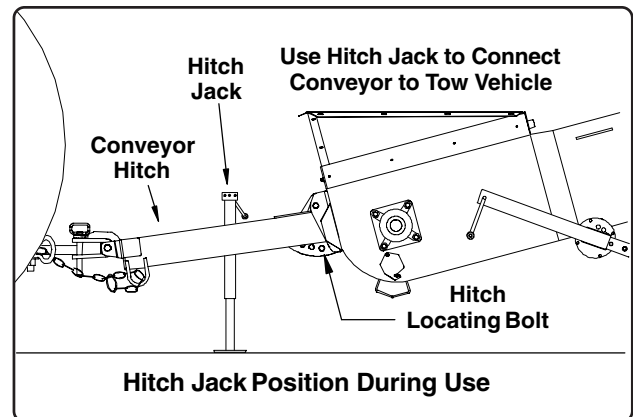

Fig. 1
The jack on the hitch tube is used for hitching and unhitching to the tow vehicle (See Fig. 1).
1. Depending on the position of the conveyor (raised or lowered) the jack needs to be as vertical to the ground as possible when being used. Remove the safety pin from the jack stand and rotate the jack accordingly, reinstall and secure the pin once the jack is positioned (See Fig. 1).